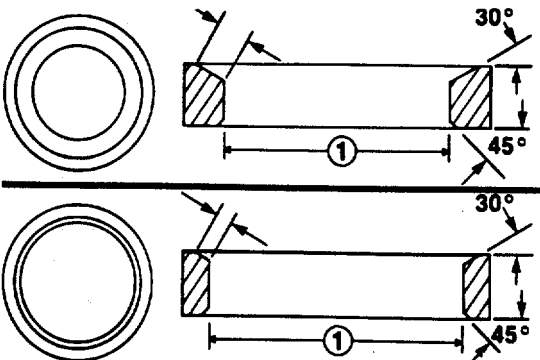

FIGURE 4-29. Valve Seat Insert Identification.
- (8) Identify the correct valve seat insert (FIG. 4-29).